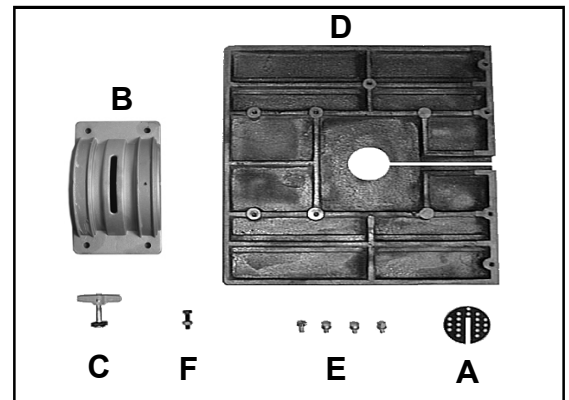

Fig. 02
Insert the M8 x 50 carriage bolt and square plastic insert (A) through the slot on the upper trunnion casting (B) and, temporarily, screw on the wing nut (C) to prevent it from falling out. (See Fig.02)
While the table is in the upside down position, add the table stop screw and nut (F) as shown. This will be adjusted later. (See Figs.02& 03)